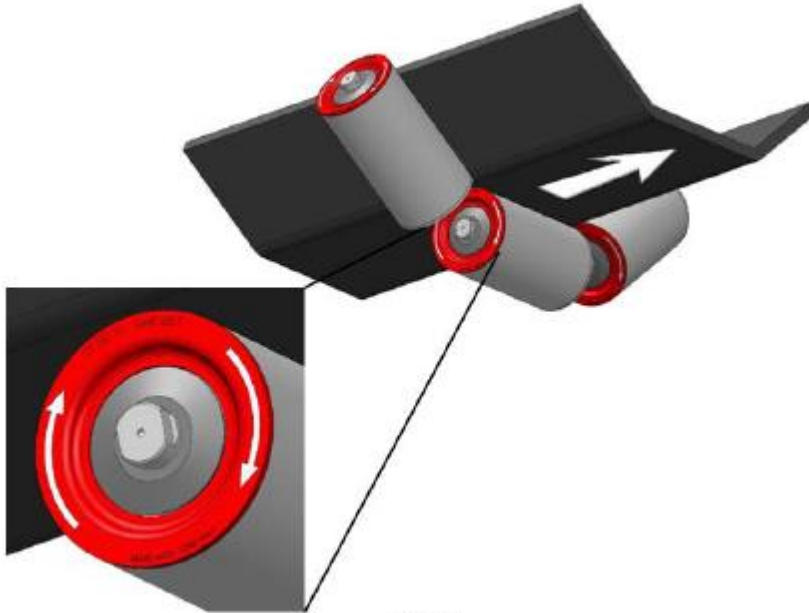

Figure 2
7. One-way rolls have one head painted a different color for easy identification. The head is marked with arrows showing the direction of rotation. Extreme care must be taken to ensure that the roll is installed correctly in order for the system to work properly. See figure 2.